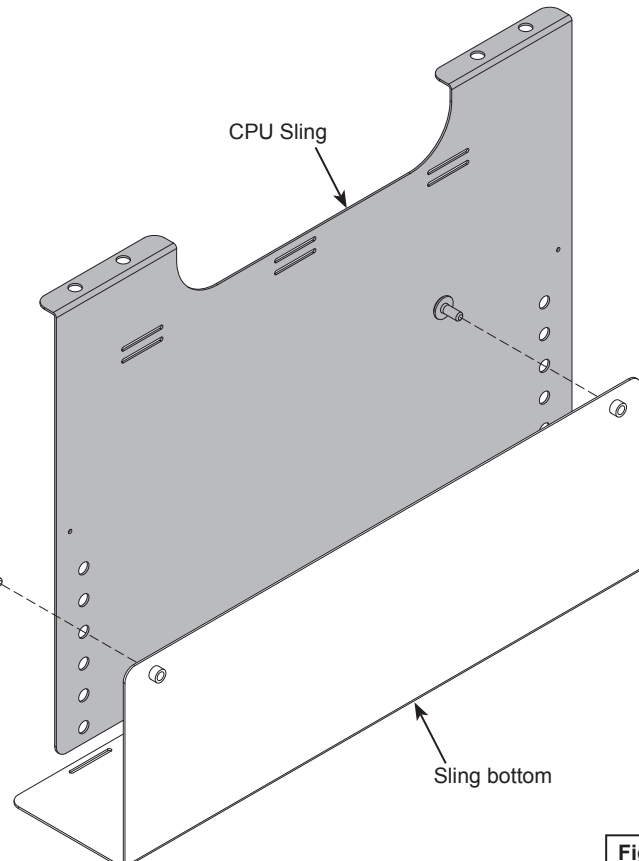

Figure 1
2. Attach the sling bottom to the CPU sling with (2) 1/4-20 x 15mm JC bolts as shown. **Figure 1.**